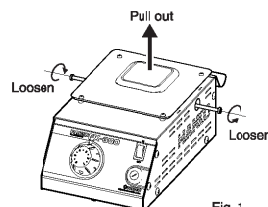

Fig. 1
1. Loosen two mounting screws on both sides of the unit to pull out the solder pot. (Fig. 1)